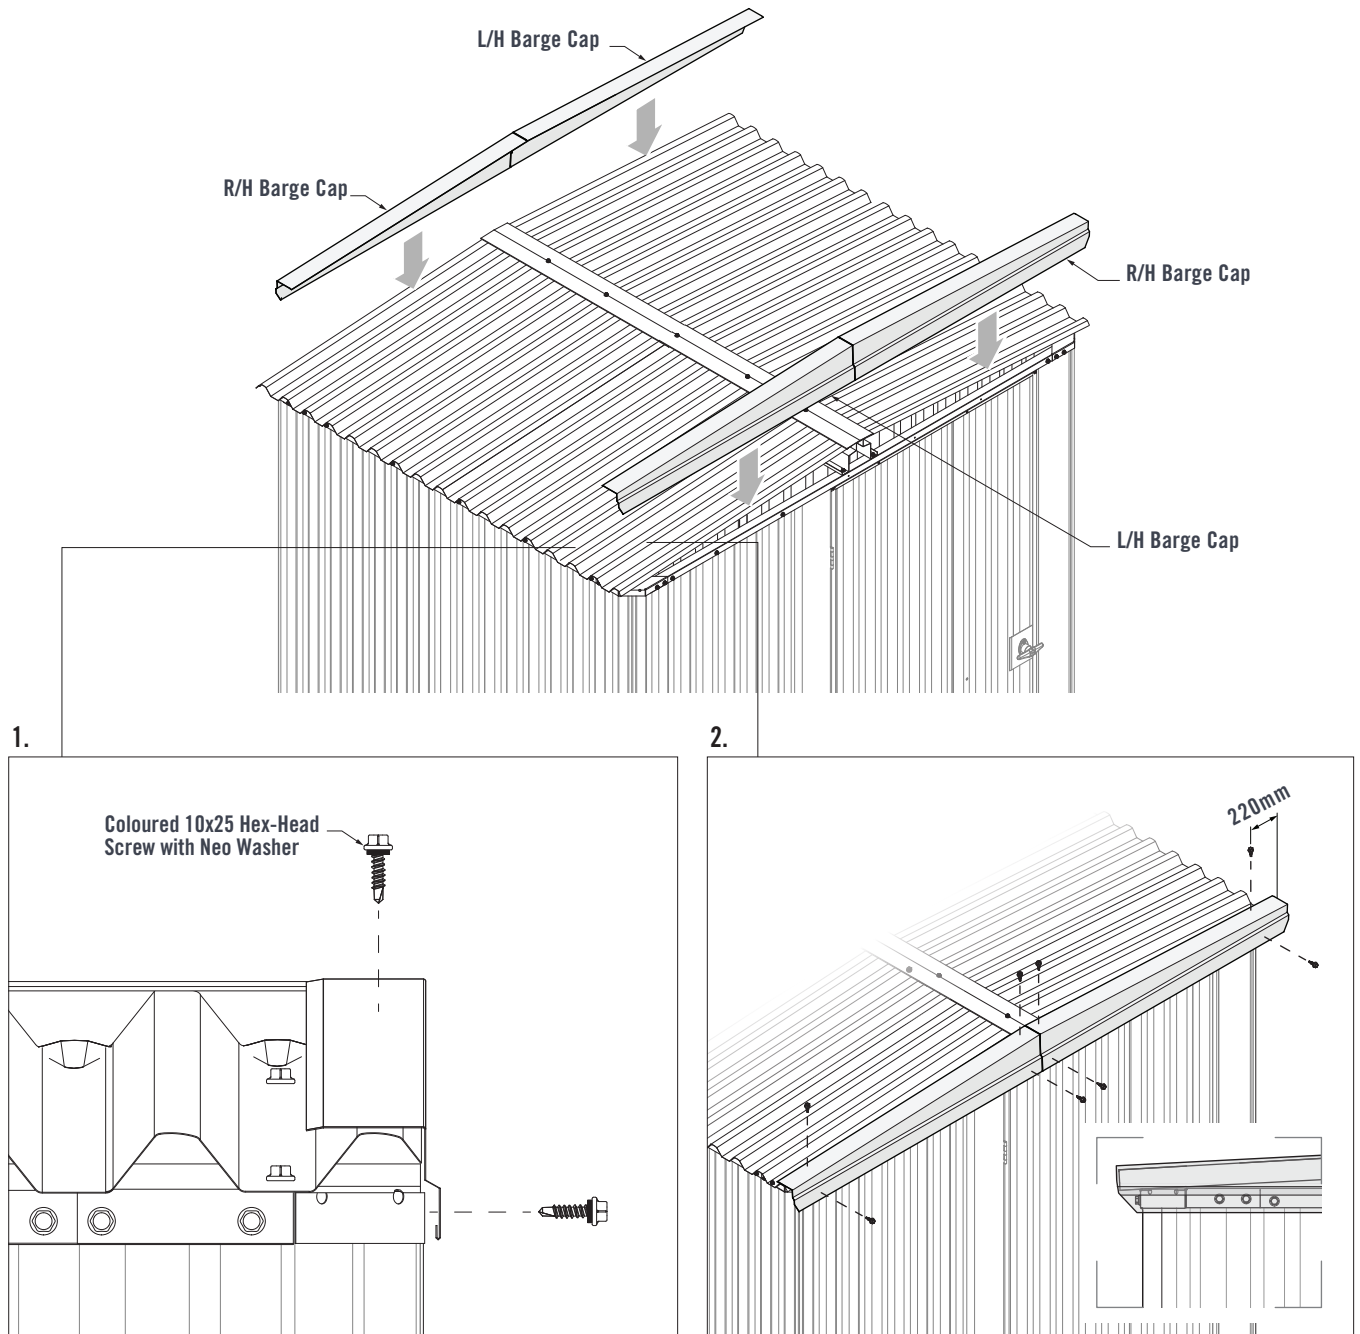

FIGURE 5.8
1. Place the L/H Barge Cap over the Roof Sheet at the front of the shed. The front face of the Barge Cap should fit up against the Roof Sheets (Figure 5.8).
2. The ends of the Barge Cap Should align with the end of the Roof Sheet. Fasten two coloured 10x25 Hex-Head Screws with Neo Washers through the front face of the Barge Cap and into the Wall Channel. Fasten two coloured 10x25 Hex-Head Screws with Neo Washers through the top of the Barge Cap and into the crests of the Roof Sheets (Figure 5.8).
Install the R/H Barge Cap in the same manner on the front right side of the shed. Install the remaining L/H and R/H Barge Caps to the rear of the shed in the same manner (Figure 5.8).